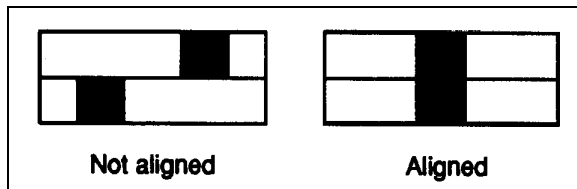

FIGURE 42: HEADLIGHT ALIGNER
5. Look through the top port hole of unit A, and turn horizontal knob until split images are aligned. See figure 42.